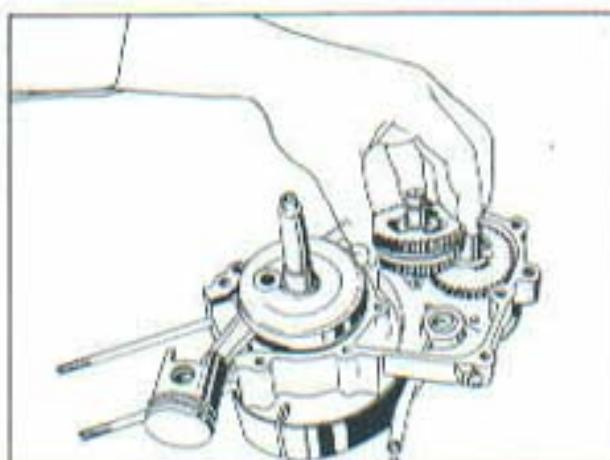

FIG. 15
- b) Remove shaft with gears - Fig. 15